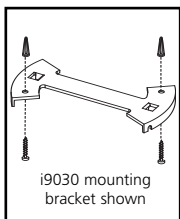
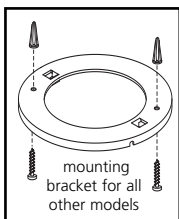
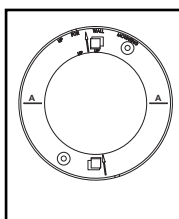
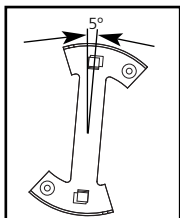

FIGURE 5
FIGURE 5A
FIGURE 6
FIGURE 6A
3. After selecting the proper smoke alarm location as described in section 1, attach the mounting plate to the ceiling as shown in figure 5 and figure 5A. For wall mounting see figure 6 and figure 6A. Place mounting plate on the wall as described in the mounting illustrations. Use the screws and anchors provided to secure the mounting plate (use 3/16" drill bit for anchor holes).